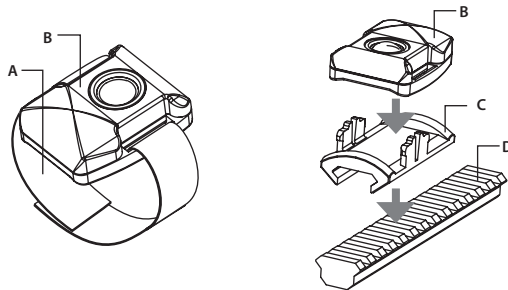

FIGURE 3-4. ADVANCED WIRELESS REMOTE CONTROL
Using Velcro tape (A, Figure 3-4), fasten the remote control (B) in an easily accessible place.